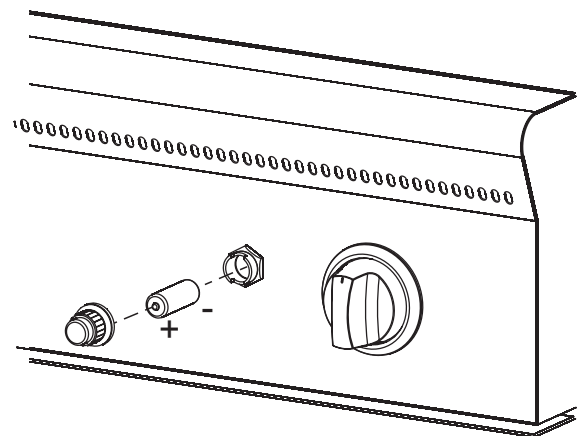

Figure 8
16. Remove ignitor button, insert AA battery positive side facing out, replace ignitor button. **See Figure 8.**